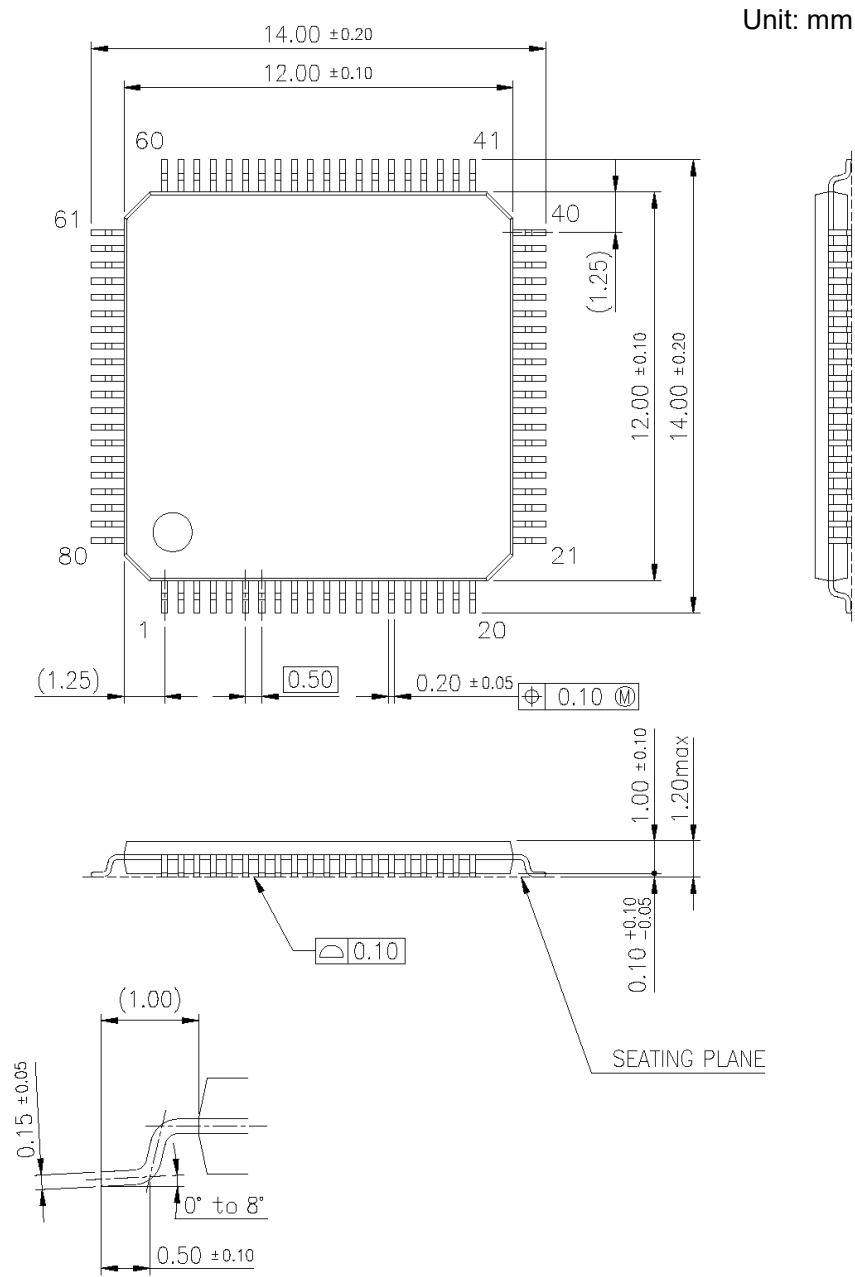

Figure 1.7-2 Package Dimension of 80 pins 12mm * 12mm 0.5mm pitch
- 80 pins 12mm * 12mm 0.5mm pitch Figure 1.7-2